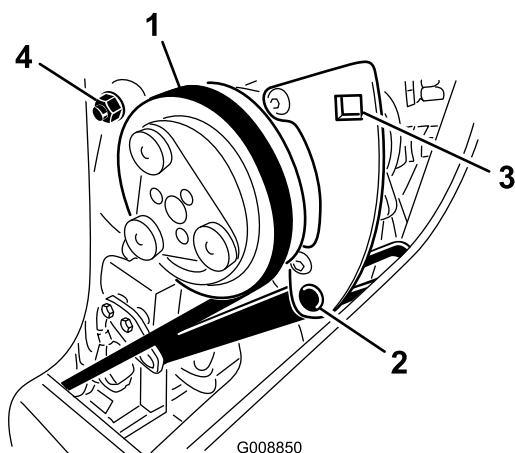

Figure 81
1. Loosen the compressor pivot bolt and adjusting bolt (Figure 81).
2. Insert a torque wrench into the square hole in the compressor bracket (Figure 81).